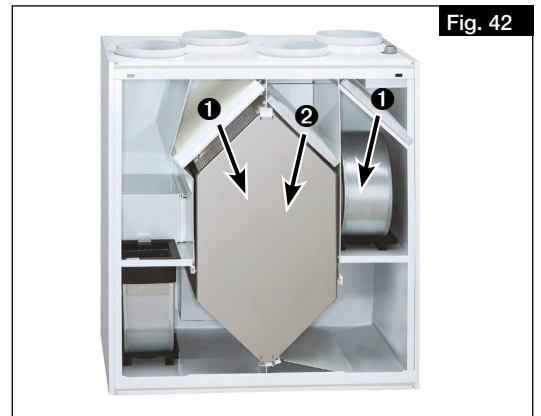

Fig. 42
2. Pull intake air filter **1** and extract air filter **2** to the front and replace (see Fig. 42).